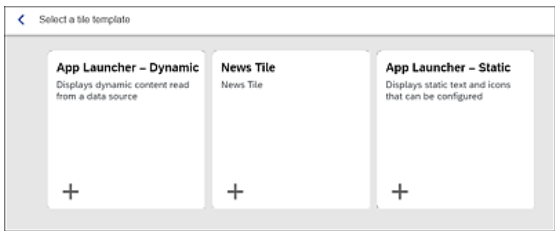

Figure 11.6 Scenario Dynamic Tile
3. Create the tile by selecting the **App Launcher - Dynamic** option, which is shown in Figure 11.6.